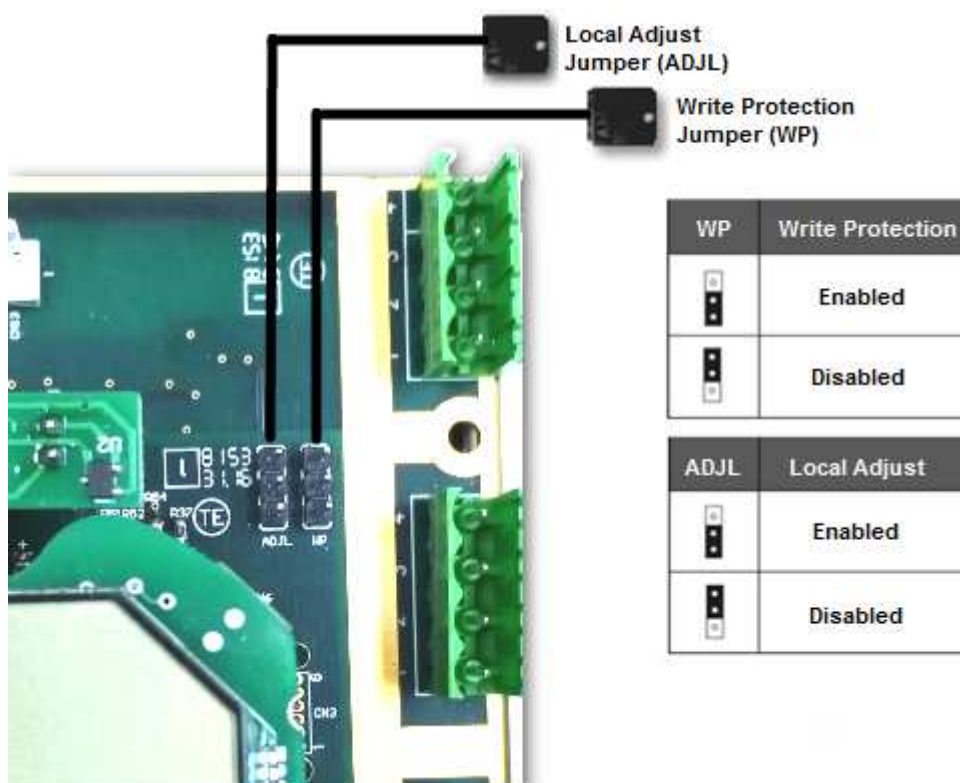

Figure 3.2 – Jumpers WP1 (write protection) and ADJL1 (local adjust) on VAP10 main board.
VTT10-MP has two jumpers on its main board to protect data writing (WP) and enabling/disabling local adjust (ADJL). Figure 3.2 presents those jumpers.